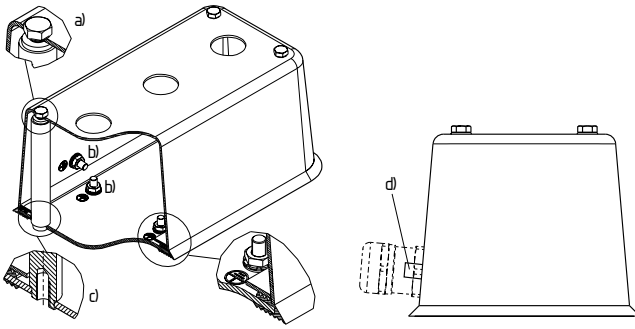

Fig. 1: Assembly of the enclosure
1. Realise a connection, one per conductor, between the provided earthing screw (Fig. 1) at the enclosure cover and the enclosure bottom.
4. The enclosure must be integrated in the equipotential bonding conductor system with the free earthing screw to EN 60079-14 (ABNT NBR IEC 60079-14) (Fig 1).